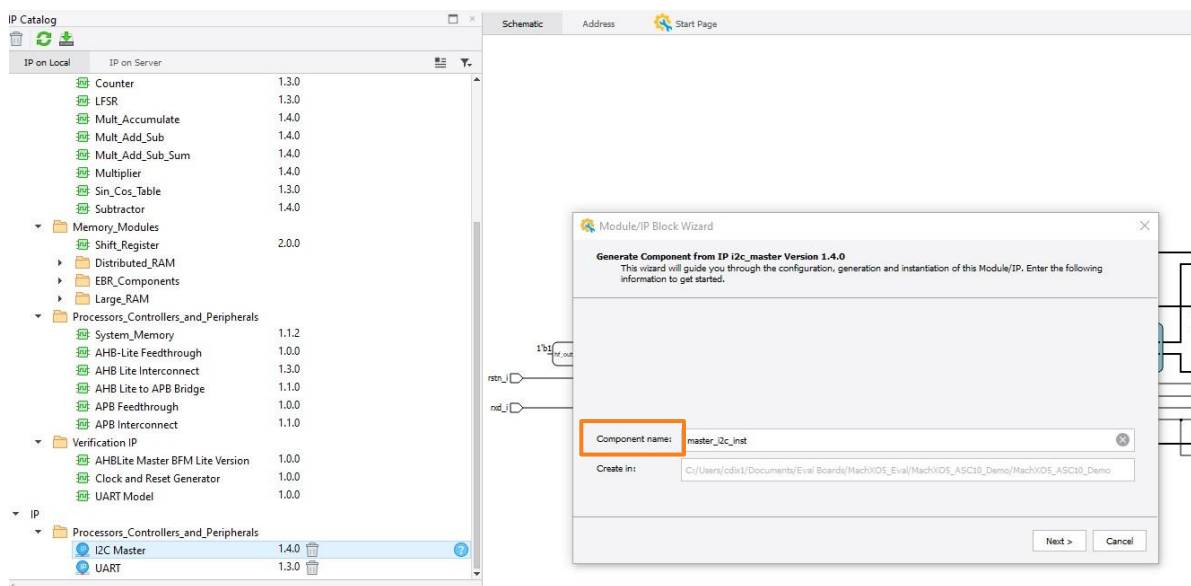

Figure 3.7. Propel Builder – Instantiate I²C Block
- The Propel Builder will ask for a **Component Name** for the I²C Master, as shown in Figure 3.7.